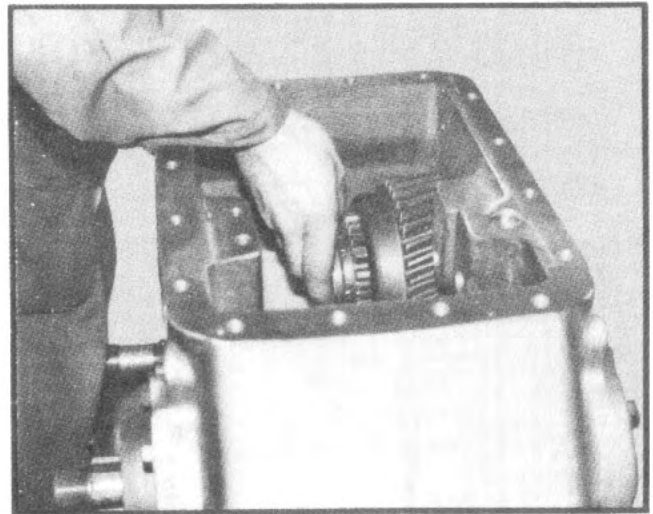

Fig. 20
3. Slide the clutch gear into the direct drive gear clutch teeth (See fig. 20).